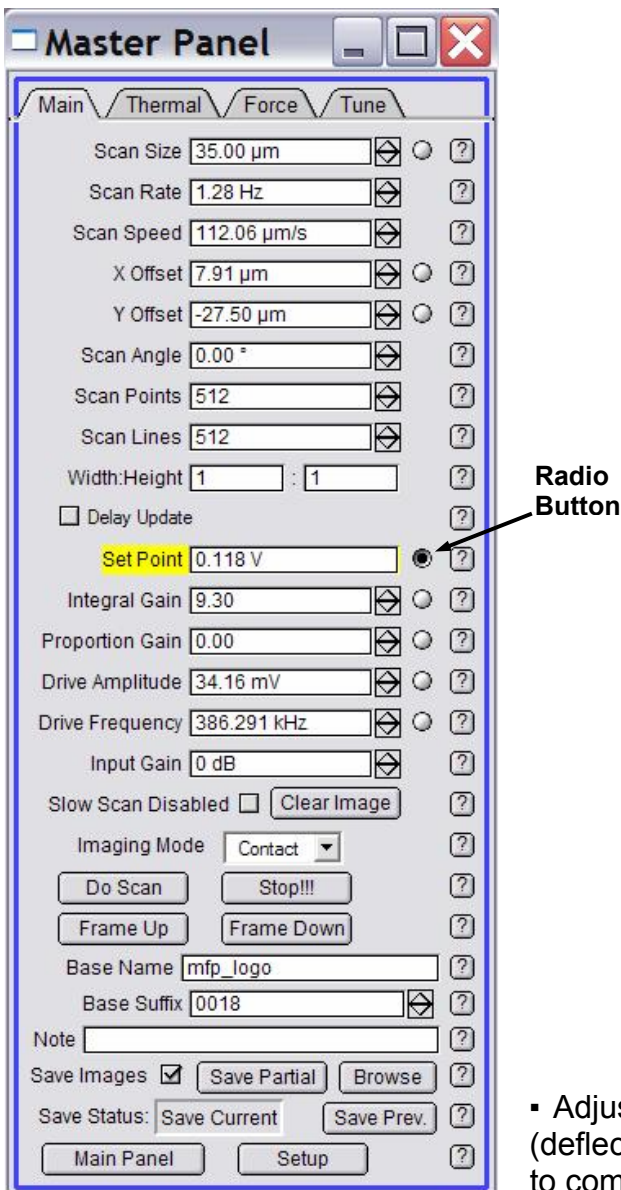

Figure 5: Main tab of Master Panel
- From Main tab in Master Panel, select 'Contact' mode from the imaging mode pull-down menu (Figure 5).
- On the Main tab (Figure 5), adjust these parameters (dependent on sample):
- ✓Integral gain (I): 5 to 10,
- Tune the parameters with set point force, integral gain (I) and scan rate. You can use the arrow clickers to adjust parameters, opposed to typing values in.
- *Alternatively,* you can fine-tune the parameters using the '**Hamster**' wheel on the front of the controller. Any parameter with a 'radio' button next to it (Figure 5) can be changed during a scan when it is activated (looks like black dot in circle) with the 'Hamster'. The Hamster gives digital control with analog feel. The toggle switch to the left of the Hamster allows you to toggle between
- *Alternatively*, you can manually select z- values in the 'Master Channel' window (Figure 5 or 7) with Data Scale, or hit the 'Fix' button to auto scale. The Data Offset can be adjusted the same way.